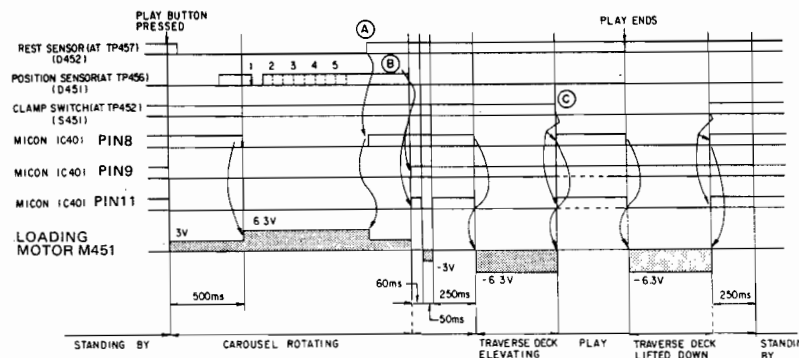

Figure 13 Timing Chart
6. Loading timing (Refer to figure 13)